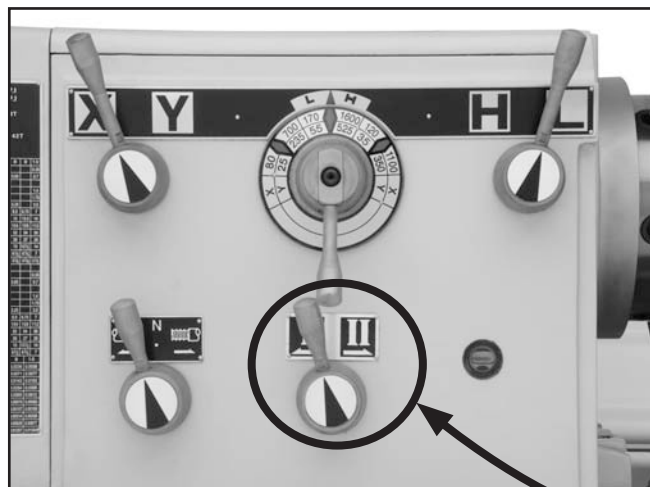
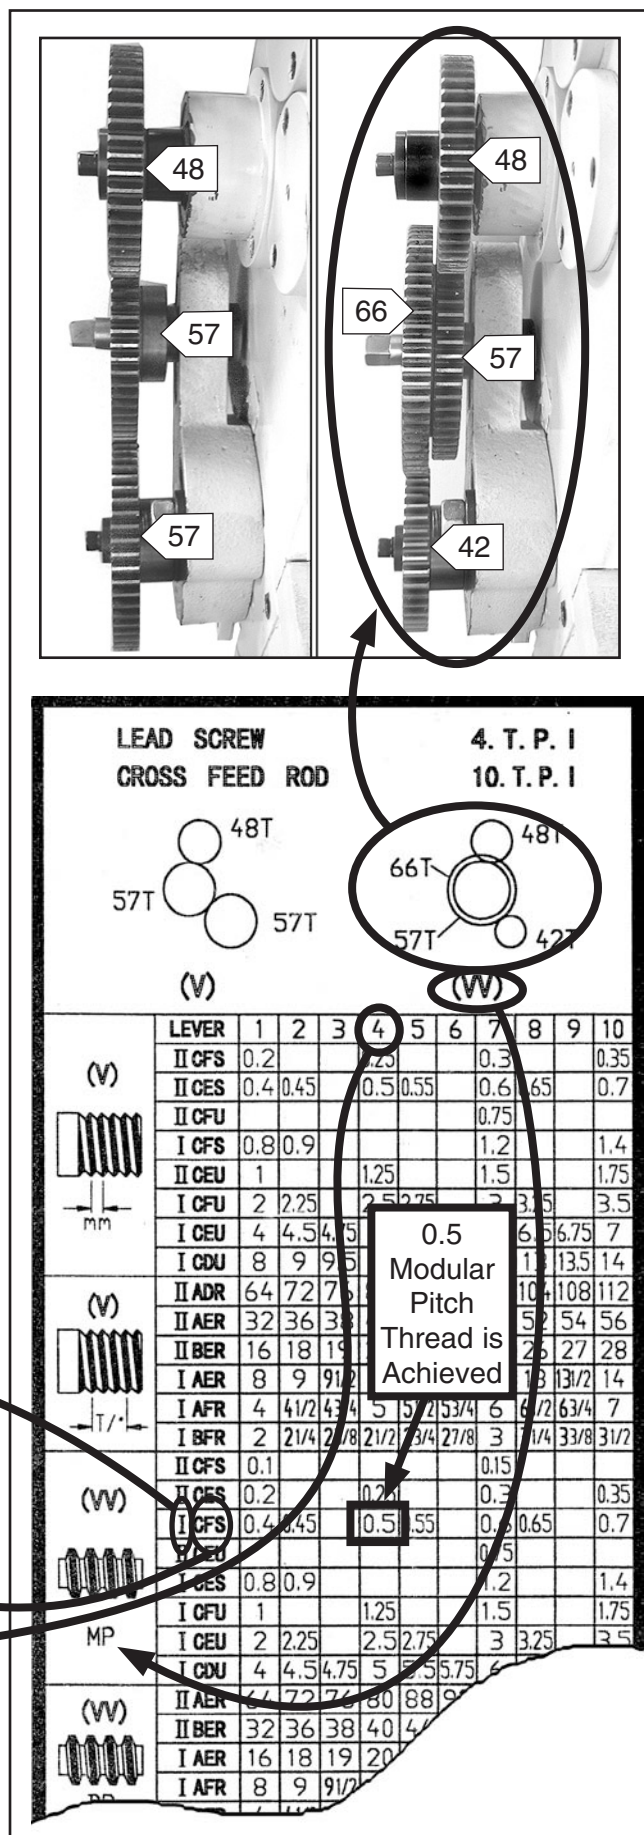

Figure 54. Headstock controls.
Figure 56. Threading chart.
Example: To cut a modular pitch thread of 0.5, the threading chart in **Figure 56** indicates that you must change the gears into the (W) mode shown, and move the levers and dials to positions I, C, F, S, and 4 (Figures 54 and 55).
17. When you are finished, make sure the gear arrangement matches the (W) mode arrangement shown in **Figure 56**.
17. When you are finished, make sure the gear arrangement matches the (V) mode arrangement shown in **Figure 56**.